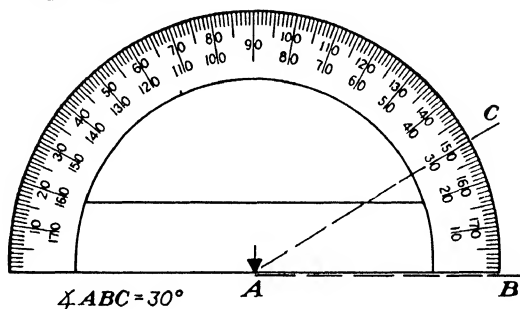

Fig. 104.
a. Place the protractor as if measuring an angle whose vertex is at  $A$  (see Fig. 104).